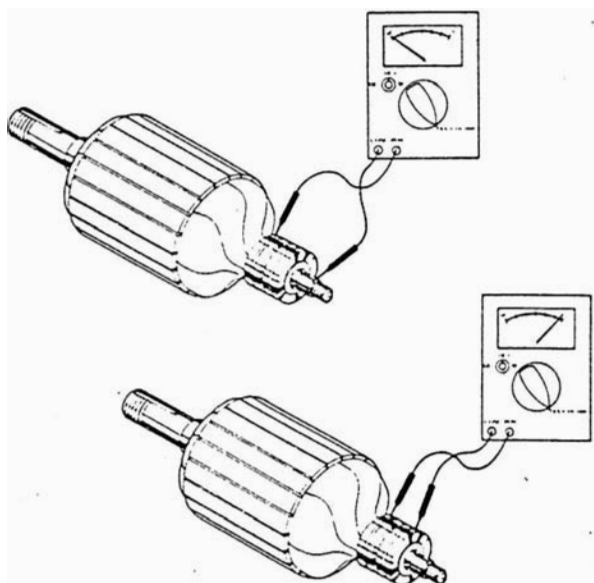

Figure 8
2. **Grounding Test (See Figure 8).**
3. **Testing for Opens (See Figure 8).**